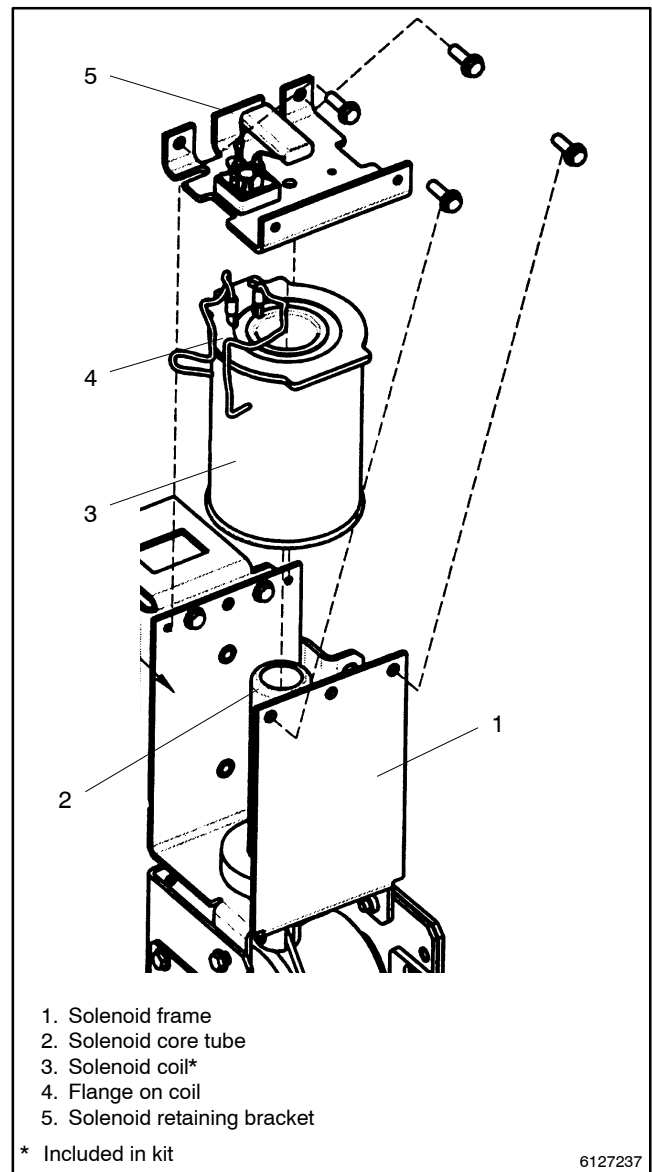

Figure 8-20 Solenoid Coil
2. Remove solenoid retaining bracket and coil. Use a 3/8 in. socket, open-end, or box wrench to remove the four SEMS screws from the solenoid retaining bracket. Then remove the bracket from the top of the solenoid. Remove the solenoid coil by pulling it upward (off the core tube) and out of the frame. See Figure 8-20.
3. Install the new solenoid coil. Position the new replacement coil so that the flange end is on top and the coil leads are on the left side. Install the coil (in this position) into the frame by pushing it downward (onto the core tube) and into the frame. Secure the coil by reinstalling the solenoid retaining bracket. Use a 3/8 in. socket, open-end, or box wrench to install four SEMS screws. Tighten the screws to 7.5 Nm (5.5 ft. lb.) torque. See Figure 8-20.